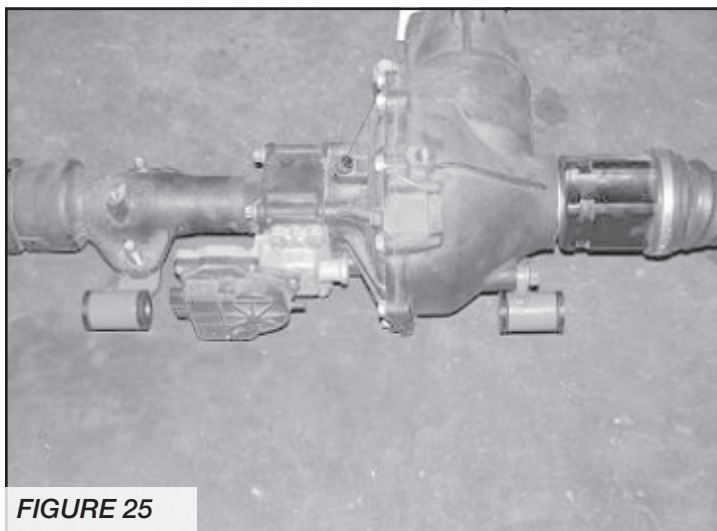

FIGURE 25
18. Locate the front differential and remove the factory front mounts. Discard the mounts and save the hardware. Locate FT70053 Driver Diff mount, FT70054 Pass Diff mount, and FT90087 Bushing and Sleeve Kit. Install the four bushings and the two sleeves into the new mounts. Using the factory hardware and some of the supplied thread-locking compound, mount the new diff mounts to the front differential. Torque the hardware to 75 ft. lbs. **SEE FIGURE 25**